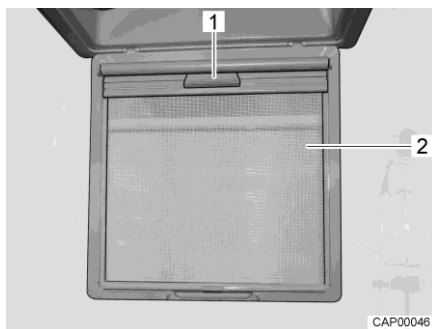

Fig. 49 Blind
- Fold insect screen (Fig. 49,2) downward.
- Pull blind down by the handle (Fig. 49,1) until it engages on the opposite side.
- Release blind at the handle (Fig. 49,1) and return it slowly to its initial position.
- Swing insect screen (Fig. 49,2) upwards until it latches in place.